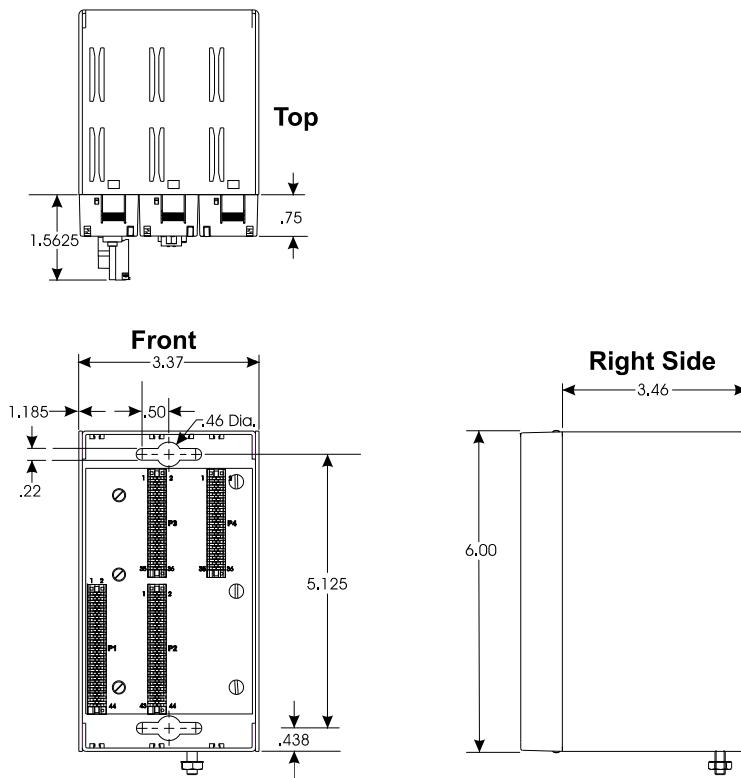
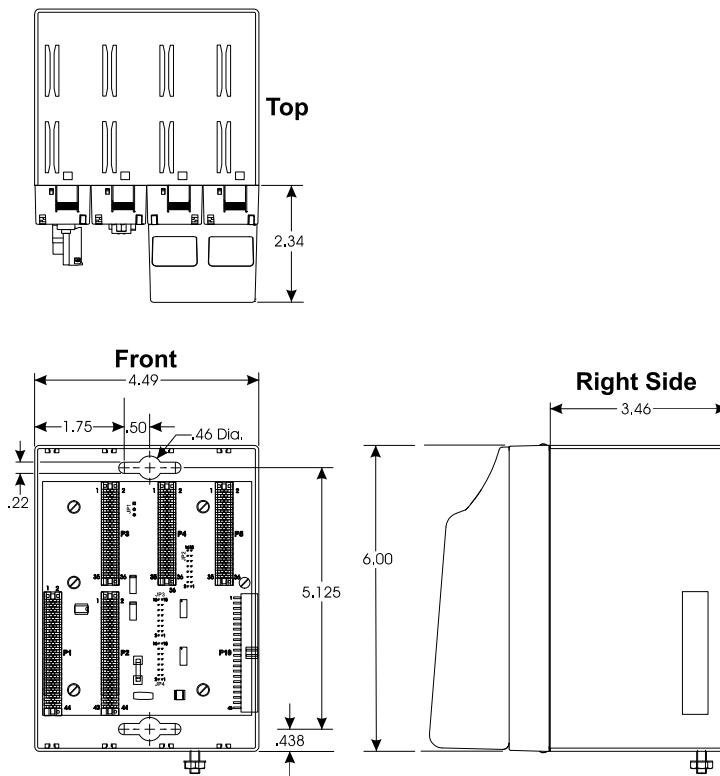
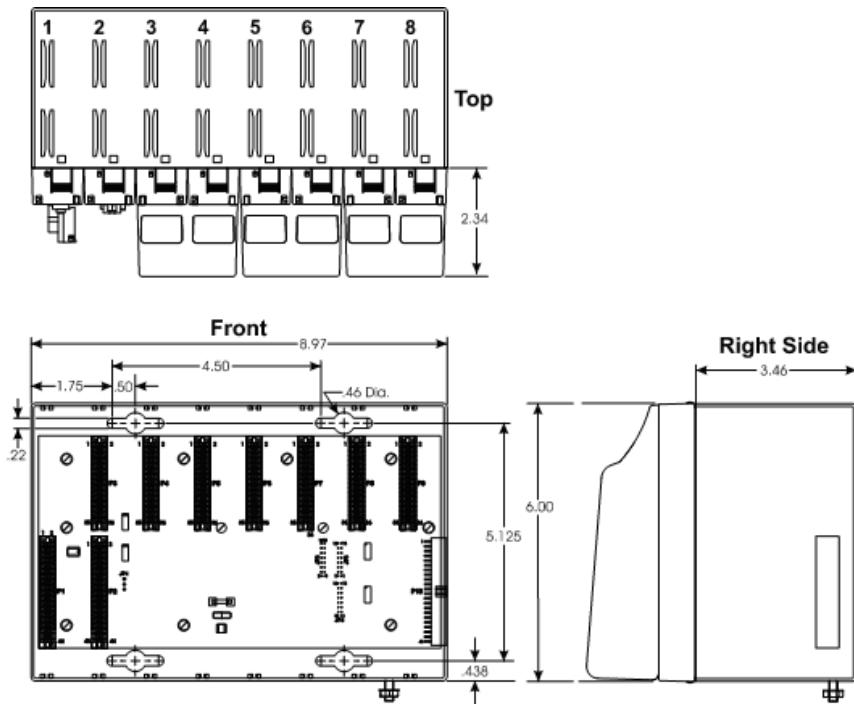

Figure 2-2. 3-Slot Base Housing
Figure 2-3. 4-Slot Base Housing
Figure 2-4. 8-Slot Base Housing
Keyed cutouts in the housing’s rear wall (see *Figure 2-2* through *Figure 2-7*) permit wall or panel mounting. The base housing has the following components:
Composed of aluminum (plated with gold irridite), the base housing has three configurations (3-slot, 4-slot, or 8-slot backplane). Optional I/O expansion housings (also gold irridite-plated aluminum) accommodate additional I/O modules in three configurations (2-slot, 4-slot, or 8-slot backplanes), and can be either wall- or panel-mounted or rack mounted with a DIN-rail. Refer to *Figure 2-2* through *Figure 2-7* for dimensional drawings of the three base housings and three expansion housings.
- Use the mounting holes provided in the base and expansion housings (see *Figure 2-2* through *Figure 2-7*).
Base housings have a ground lug (see *Figure 2-2* through *Figure 2-7*) that accommodates up to a #4 AWG wire size. Once you have installed the base and any expansion housings, you must run a ground wire between the base housing ground lug and a known good earth ground.
The Power Supply/Sequencer module (PSSM) plugs into slot #1 (first slot from the left) on the ControlWave Micro's backplane using connector P1, a 44-pin female non-keyed header (see *Figure 2-2*, *Figure 2-3* and *Figure 2-4*).